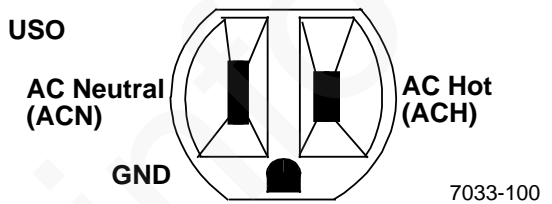

Figure 1. USO Wall Outlet
b. **USO only** (Figure 1). Perform the following: